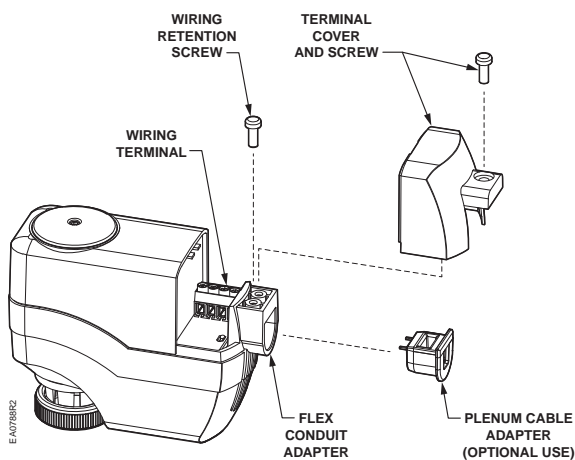

Figure 2. EN/ESZ3B2, EN/ESZ3C2 Actuator Components.
1. Using a Phillips head screwdriver, remove the terminal cover (Figure 2).
3. Using a Phillips head screwdriver, remove the terminal cover (Figure 2).